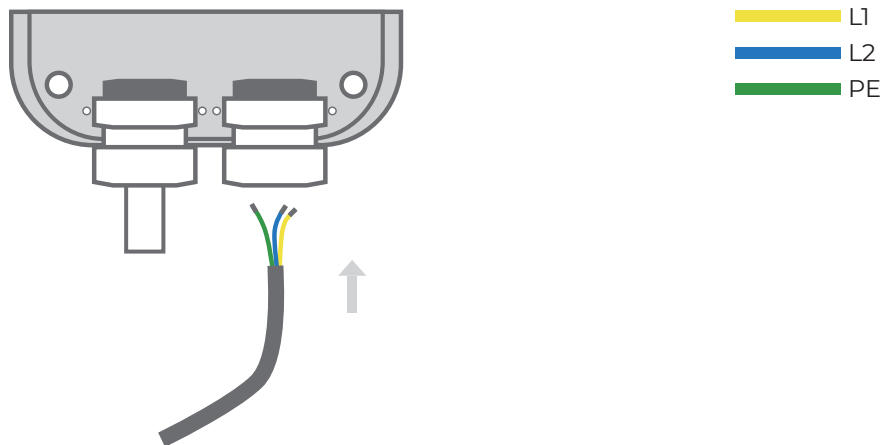

Fig. 5.6.8
8. Pass through the service wiring from the right bottom hole. (See Fig. 5.6.8)